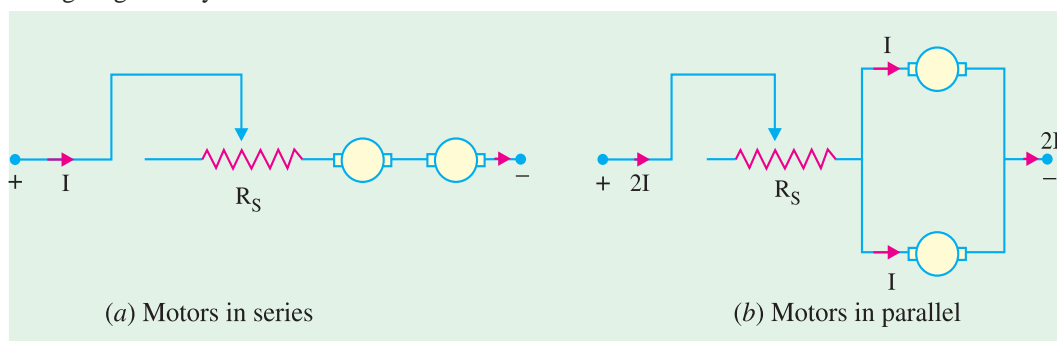

Fig. 43.29
With a 2 motor equipment  $\frac{1}{2}$  the normal voltage will be applied to each motor at starting as shown in Fig. 43.29 (a) (Series connection) and they will run upto approximate  $\frac{1}{2}$  speed, at which instant they are switched on to parallel and full voltage is applied to each motor.  $R_s$  is gradually cut-out, with motors in series connection and then reinserted when the motors are connected in parallel, and again gradually cut-out.
**(b) Parallel operation.** The motors are switched on in parallel at the instant ' $E$ ', with  $R_s$  reinserted as shown in Fig. 43.29 (b). Current drawn is  $2I$  from supply. Back e.m.f. across each motor  $= EL$ . So the back e.m.f. now develops along  $LG$ . At point ' $H$ ' when the motors are in full parallel, ( $R_s = 0$  and both the motors are running at rated speed)